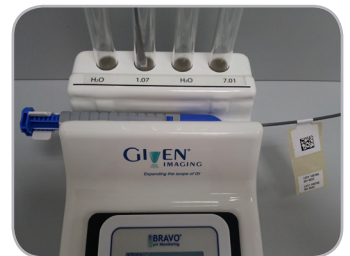

Fig. 2
- Fill 4 tubes in the calibration stand half-full as follows. (Fig. 2)